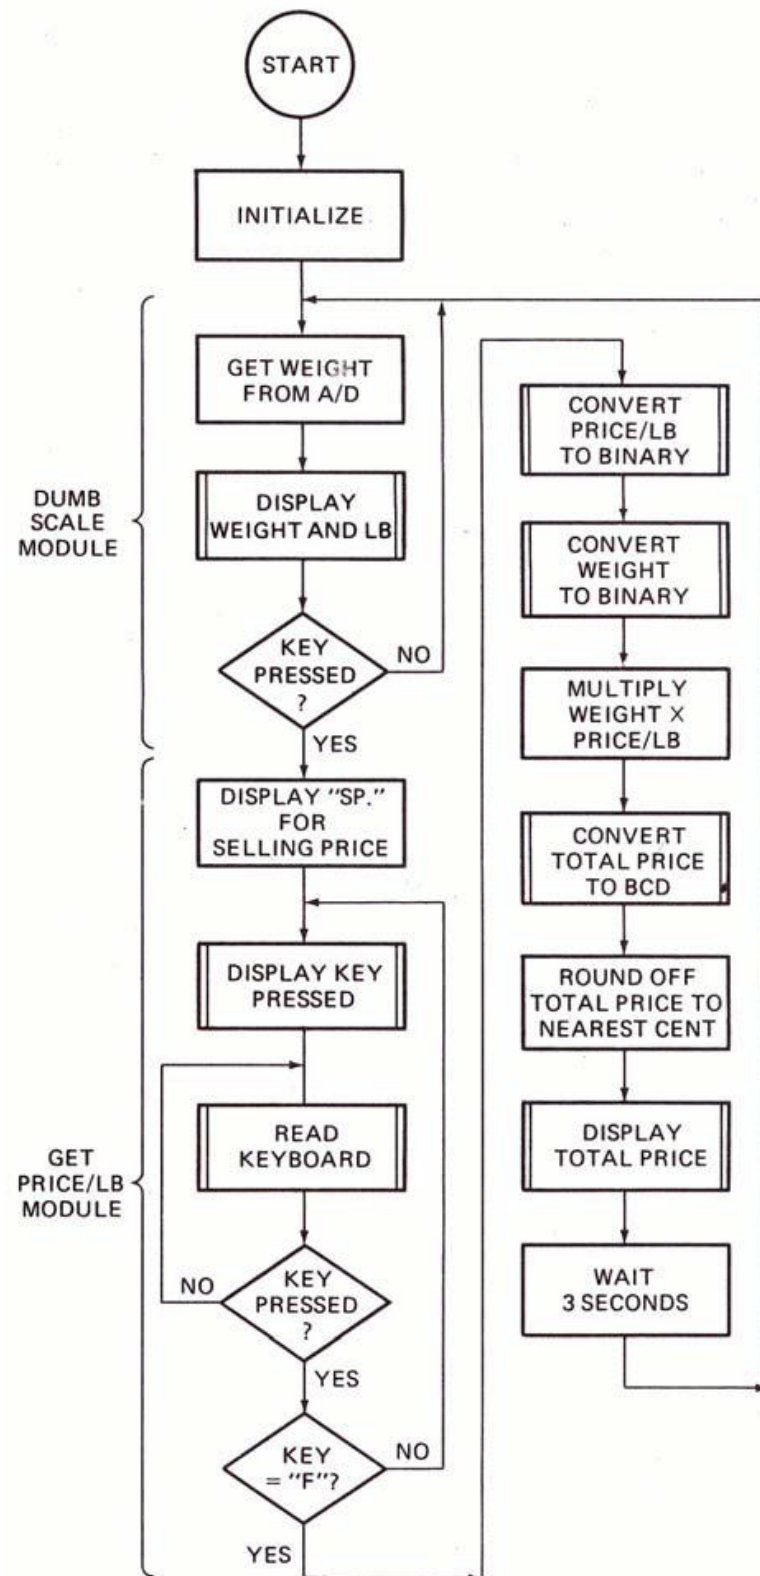

Fig 5.7
- Figure 5.7 shows the flowchart for our smart scale.